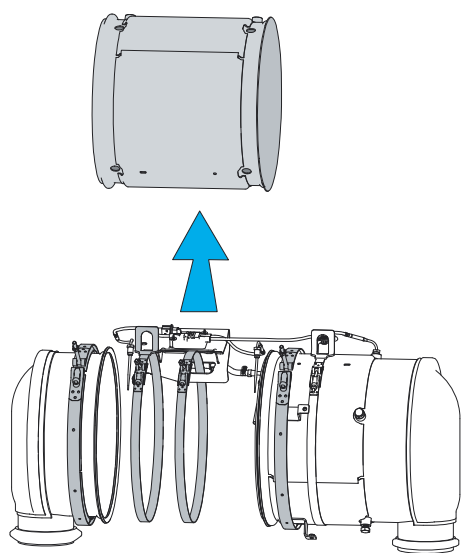

Figure 5-5-29 Detaching Diesel Particulate Filter
3. Disconnect the straps securing the DPF. See Figure 5-5-29.